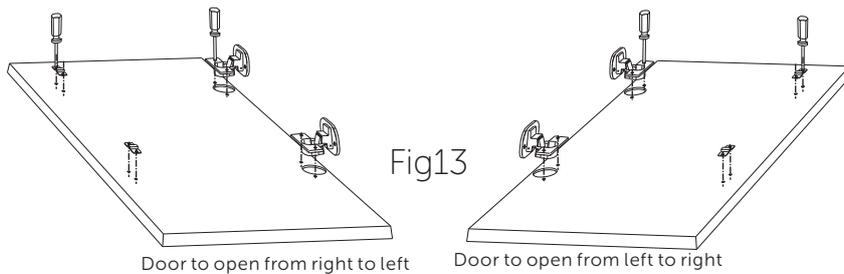

Fig13
4. Installation the hinges and spacer(Fig 13)